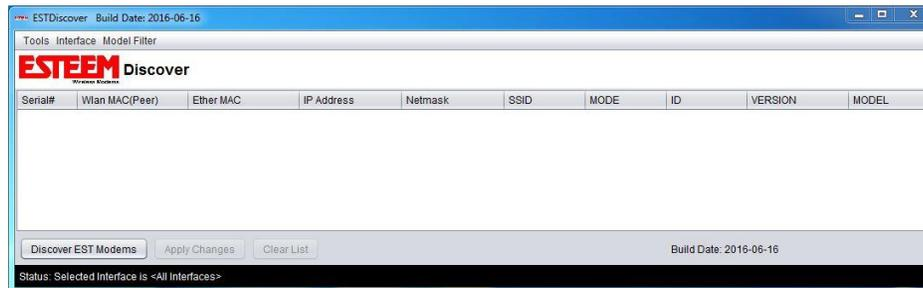

Figure 1: ESTeem Discovery Utility
2. Once both the above programs have been installed, save the ESTDiscover.exe file to any location on your computer such as the Desktop. Double click the ESTeem.exe program and Figure 1 will be displayed.